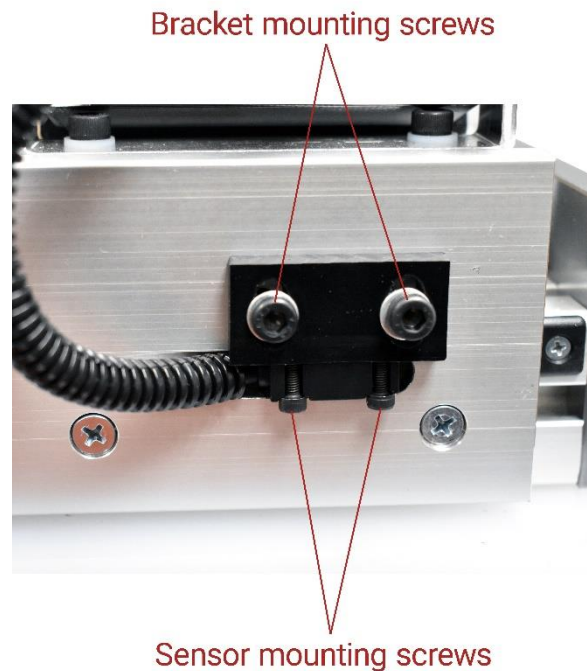

Figure 4
1. Loosen the sensor mounting screws slightly (figure 4).
2. Loosen the bracket mounting screws slightly (figure 4).